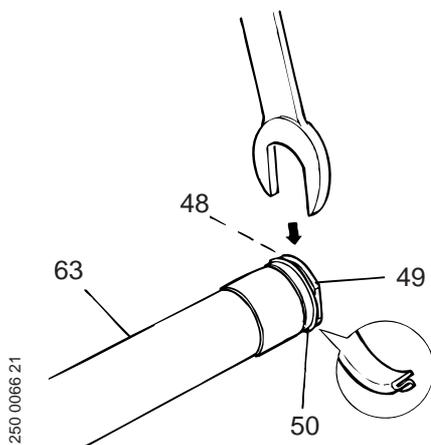

Fig. 7
1. Clamp the inner cylinder barrel (63) in a machine clamp or in a vice fitted with soft jaw linings or a V-block. To avoid the risk of deforming the cylinder barrel, do not tighten the clamp or vice too hard.
2. Remove the piston (49) and seal (50) using a 70 mm combination spanner. See fig. 7.
3. Remove the guide socket (46) from the inner cylinder barrel (63).
1. Fit the piston seal (50) and O-ring (48) to the piston (49). Check that the sealing surface of the piston seal faces downwards. See fig. 7. Now fit the piston (49) on to the inner cylinder barrel (63).
2. Fit the wiper (45) and O-ring (47) on to the guide socket (46).
3. Fit the guide socket (46) into the inner cylinder barrel (63).